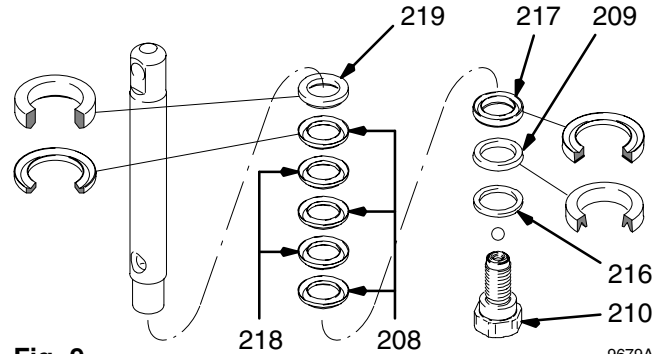

Fig. 9 9679A
Fig. 9. Soak all leather packings in SAE 30W oil for 1 hour minimum prior to assembly. Stack male gland (219) on piston rod. Alternately stack UHMWPE (208) and leather (218) packings (note orientation) on piston rod. Install female gland (217). Install backup washer (216) and u-cup (209) (note orientation) on piston valve (210). The special sealing patch on piston valve threads is good for four repackings. Use Loctite® on piston valve threads after four repackings.